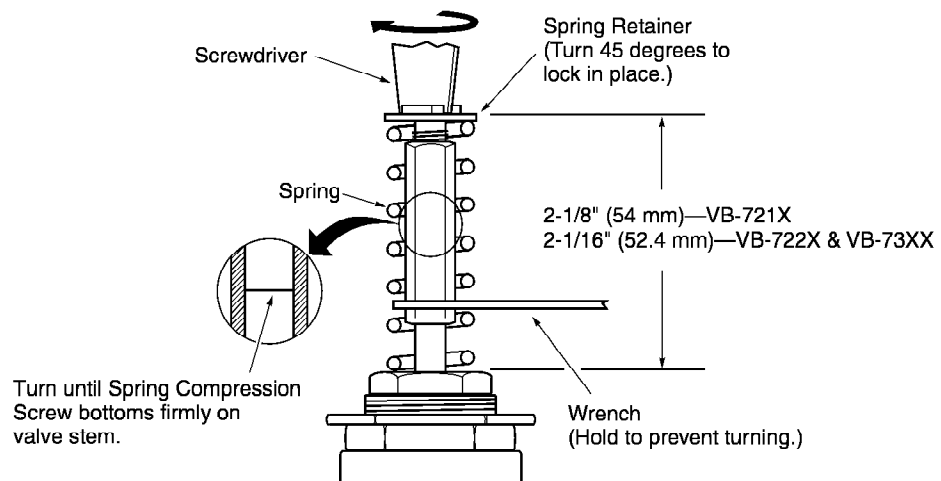

Figure-3 Installation of Linkage Spring.
7. Tighten the spring compression screw. To establish proper linkage height, run the spring compression screw down until the screw end bottoms firmly on the stem top (Figure-3).
8. Confirm stem height setting (Figure-3):